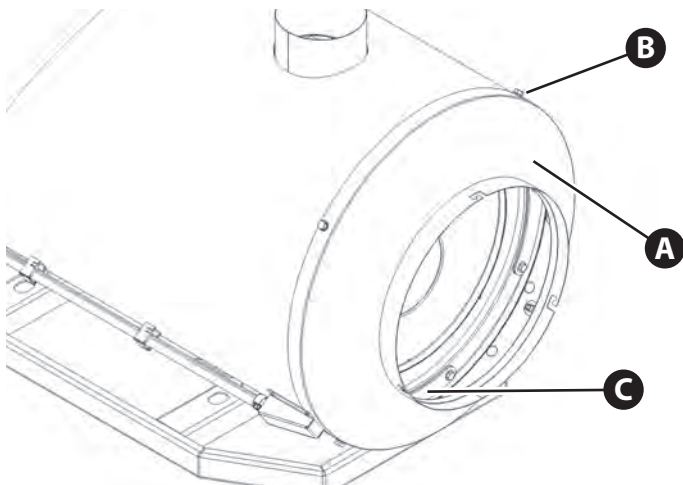

Figure 5.6
1. Remove the air outlet cone (A, Figure 5.6) by removing the screws (B) that secure it to the heater unit.
3. Locate the curved plate (C, Figure 5.6) at the bottom of the combustion chamber. Remove the screws that hold the plate, and remove the plate and gasket.